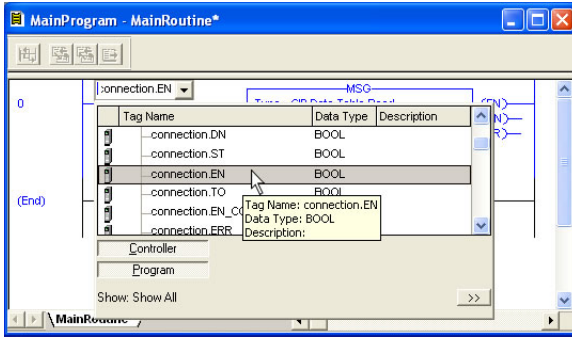

Figure 104: Configure XIO Element
- a) Double-click on the XIO element located to the left of the MSG block. In the drop-down box, double-click on the “connection.EN” field. Refer to Figure 104. This configuration causes the MSG instruction to automatically retrigger itself when it completes. While this is acceptable for the purposes of this example, it can produce high network utilization. In actual practice, it may be desirable to incorporate additional logic elements to allow triggering the MSG instruction at a specific rate or under specific conditions.